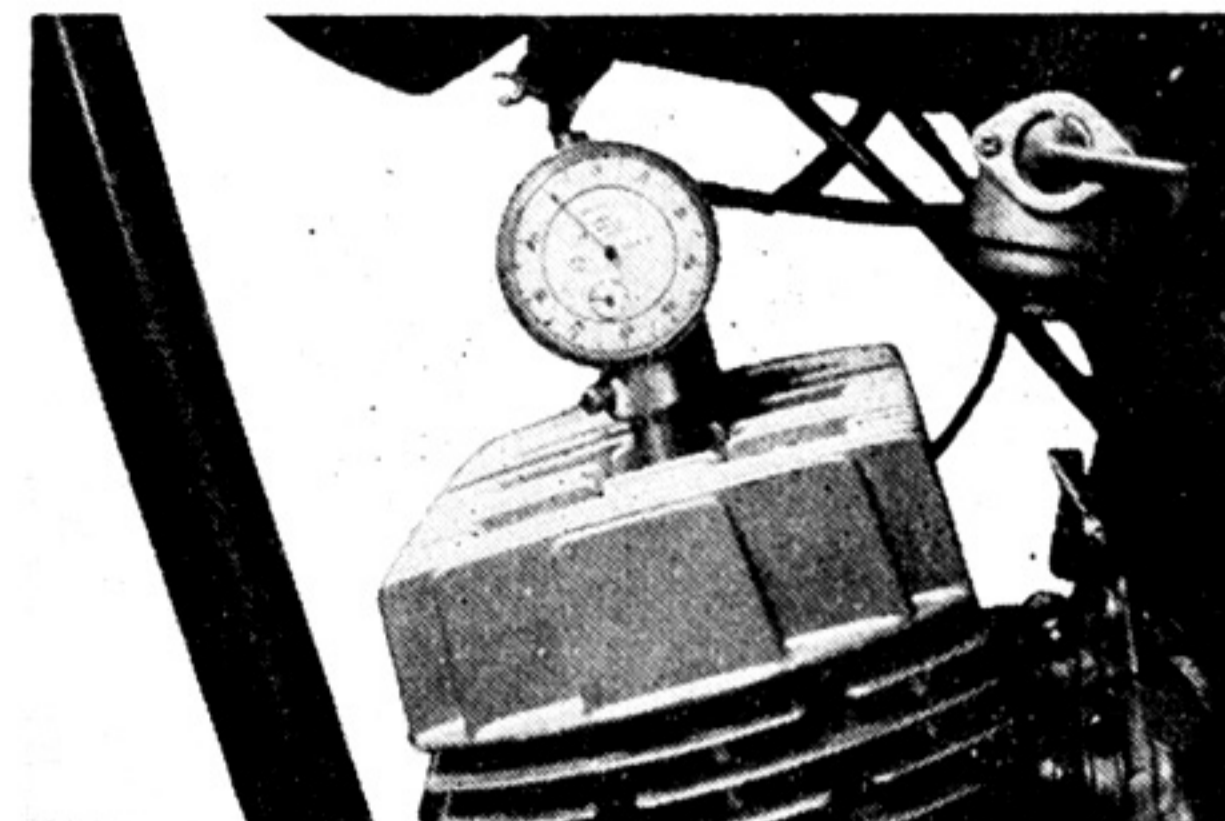

Fig. 5-4-15
- 5) Set the point gap at 0.3 – 0.35 mm. (Fig. 5-4-15) When adjusting the right cylinder (right in relation to the riding direction), adjust the breaker points of terminal 1₁ (gray). For the left cylinder, adjust the points of terminal 1₂ (orange).